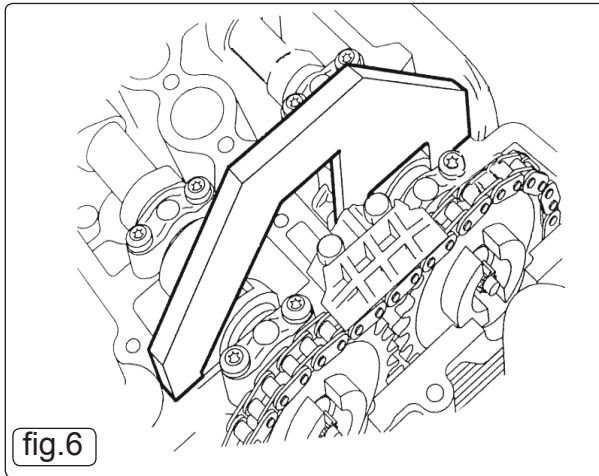

fig.6
4.2.1 The VS4551 Setting Plate is located on the inlet camshaft in the position shown in Fig.6.